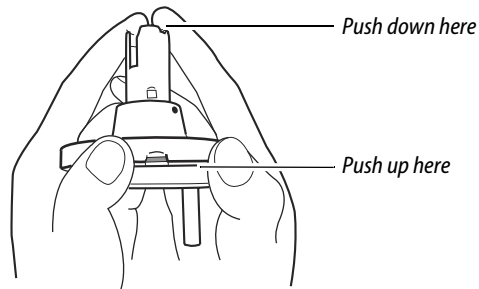

Figure 7 Removing the inside rose from the liner
- 2 Holding the inside rose assembly as shown in Figure 7, remove the rose from the rose liner.